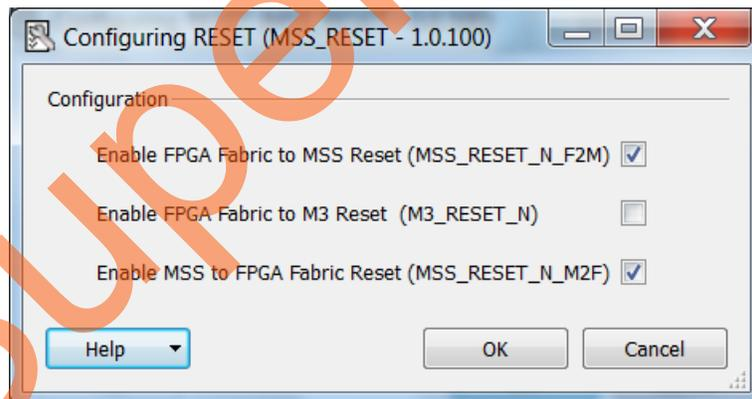

Figure 13. MSS RESET Configurator
- Double-click the **Reset Controller** and select the **Enable MSS to Fabric Reset** and **Enable Fabric to MSS Reset**, as shown in Figure 13. This enables the MSS to generate the Reset signal for all the Fabric blocks. The MSS reset itself comes through a system reset pin on the Fabric I/O. Click **OK**.